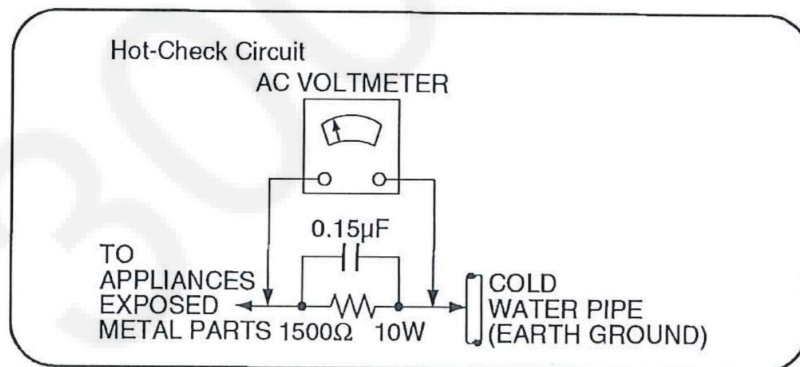

Figure 1
1.1.2. Leakage Current Hot Check (See Figure 1.)
2. Connect a 1.5 Kohm, 10 watts resistor, in parallel with a 0.15 μ F capacitors, between each exposed metallic part on the set and a good earth ground such as a water pipe, as shown in Figure 1.